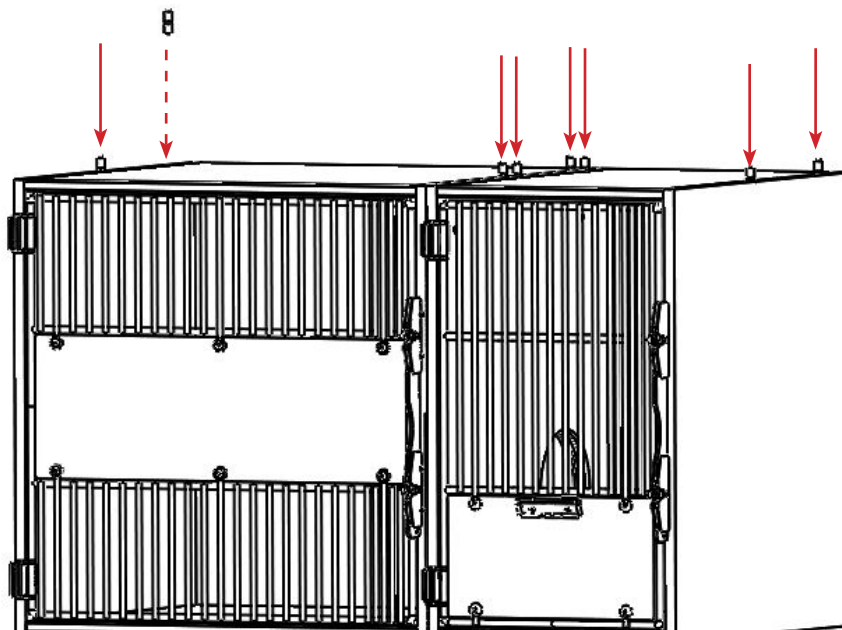

FIGURE 2.23 - Second Row Guide Pins
STEP 7: Insert a guide pin into each of the pre-drilled holes in the top of the first row of units. See FIGURE 2.23